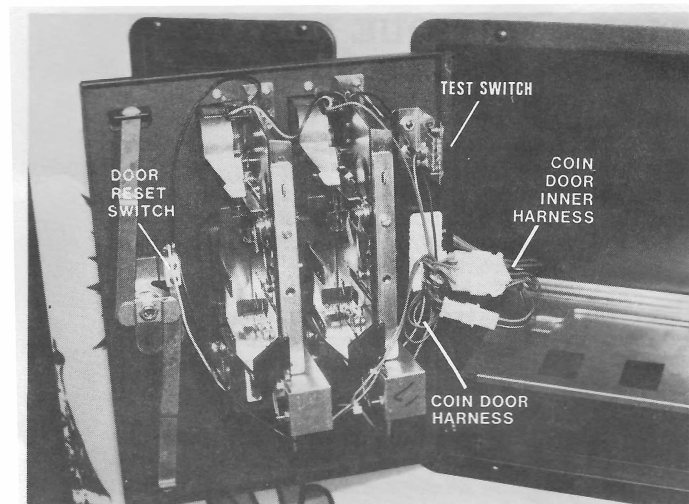

Figure 5. Coin door showing coin mechanism, reset switch and test switch
- Inside the coin door you will find a slam/reset switch, Fig. 5, which when activated will cause the game to reset, and a slide switch which will put the game into test mode when depressed and released.